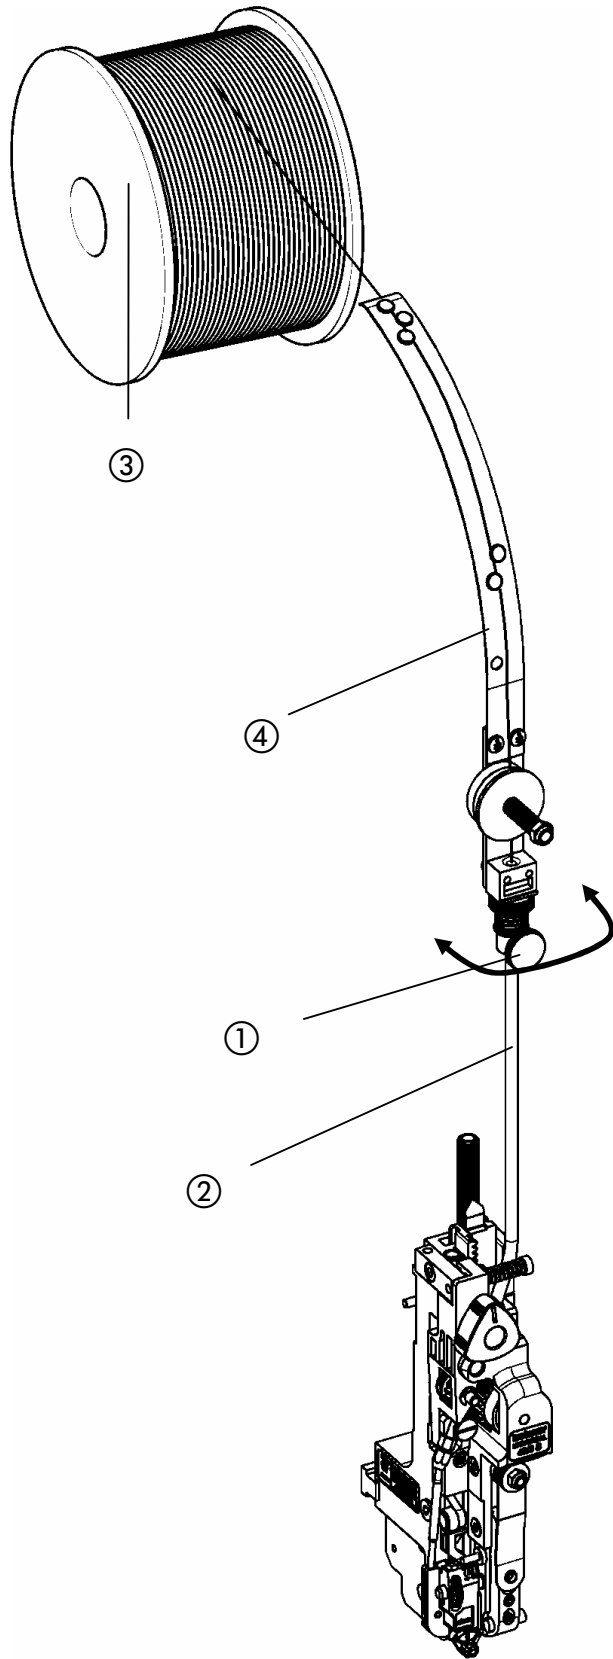

Fig. 6
- Fig. 6 -
- Loosen the knurled screw ① and place the wire guide ④ on the wire guide tube ②.
- Align wire guide ④ to wire roller ③, in order to ensure perfect wire guidance.
- Tighten knurled screw ① in order to fix the wire guide ④.